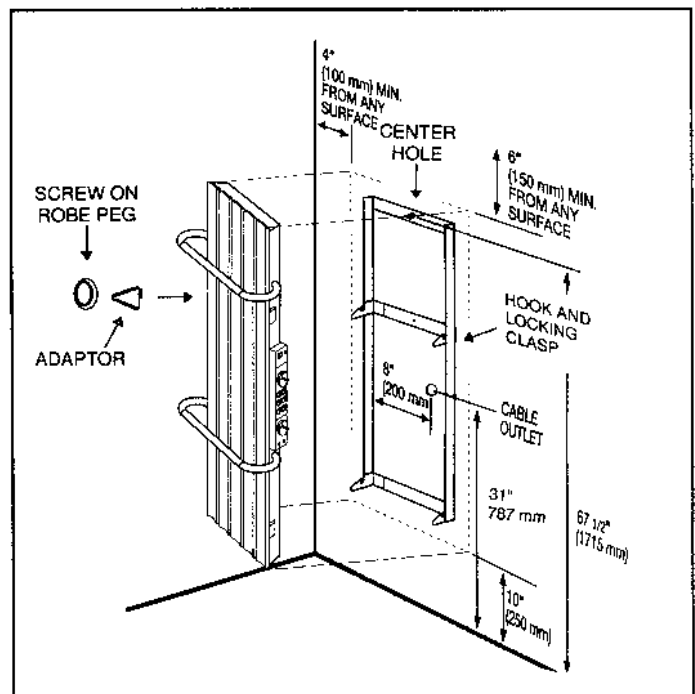

Figure 1
- 3- Check height installation referring to figure 1. The unit should be installed 10 in. (250 mm) from floor, sides at more than 4 in. (100 mm) and top at more than 6 in. (150 mm) from all surfaces.
- 3- Hold mounting bracket to wall with help of a small nail in the center hole of the upper portion of the mounting bracket (fig. 1) at 67 1/2 in. (1715 mm) from floor. The mounting bracket thus acts as a plumb-line and assures verticality of the unit.
Assemble head and main part of the peg by twisting together and turning once or twice. Engage hook in chosen slot and tighten by moderately screwing head (Fig. 1).